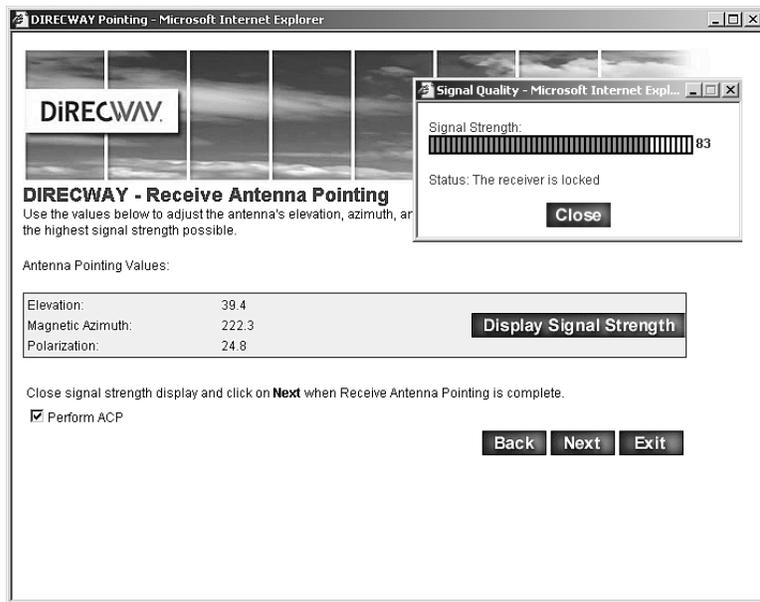

Figure 57: Receive pointing
10. Click **Display Signal Strength** on the Receive Antenna Pointing screen shown in Figure 57 to open the Signal Quality window.